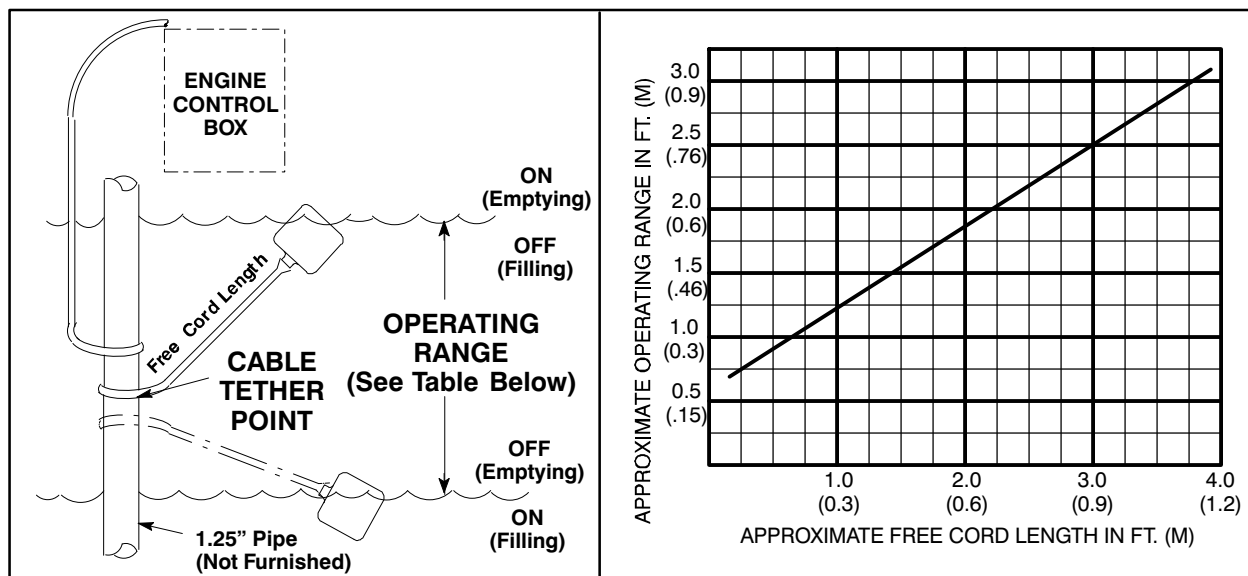

Figure 3. Float Switch Data
- Refer to Figure 3 for additional float switch data.